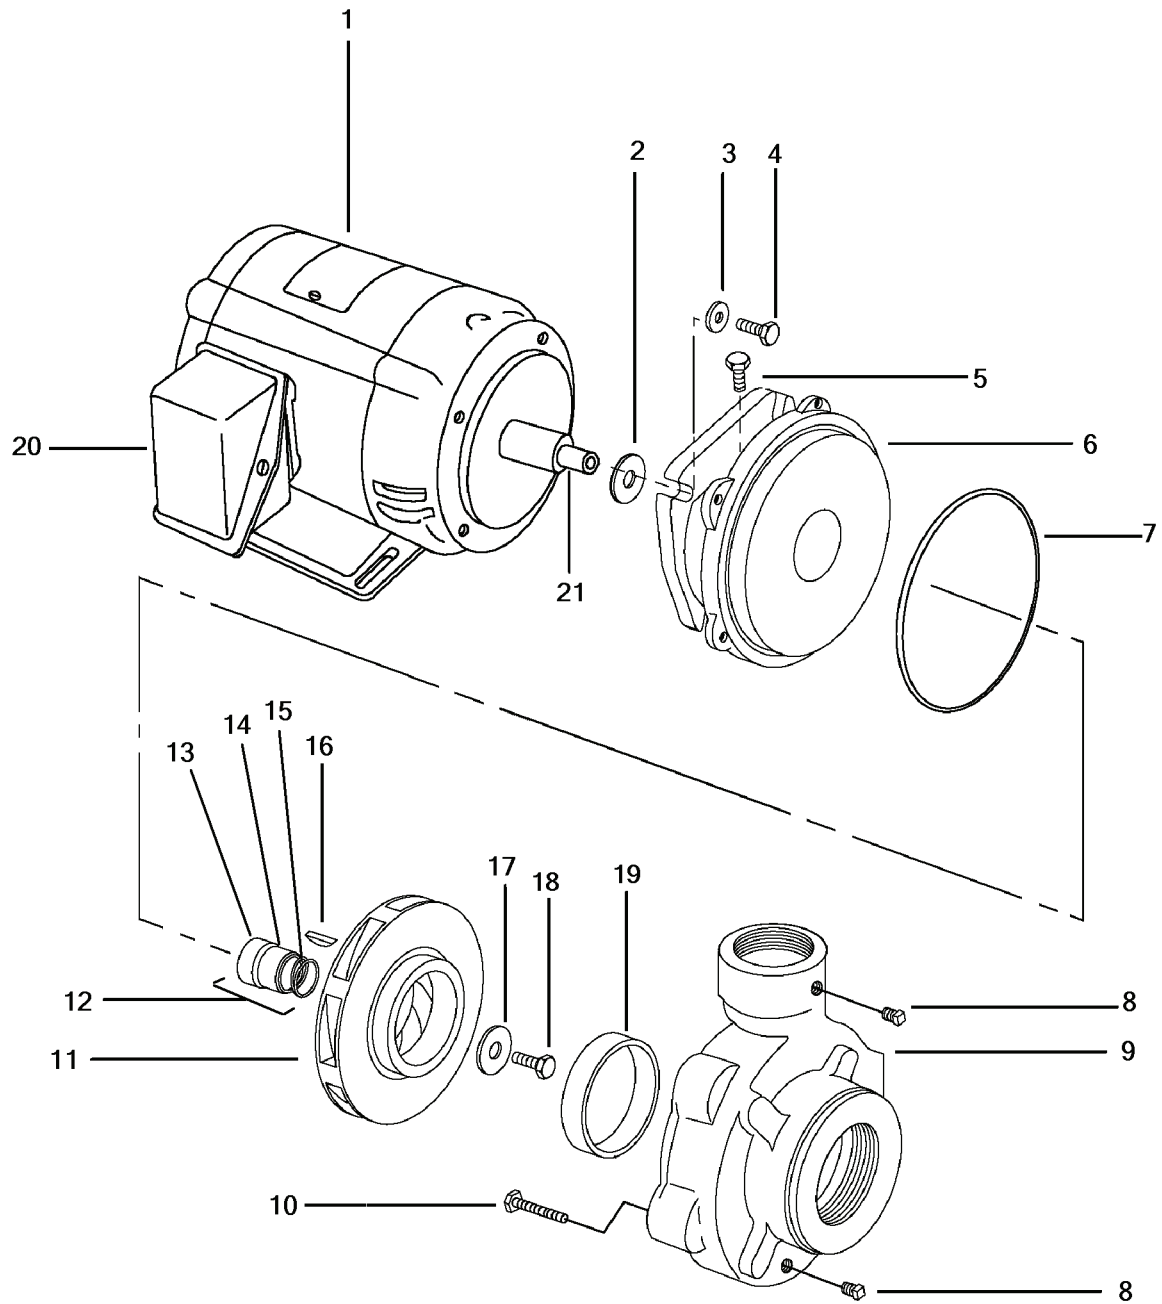
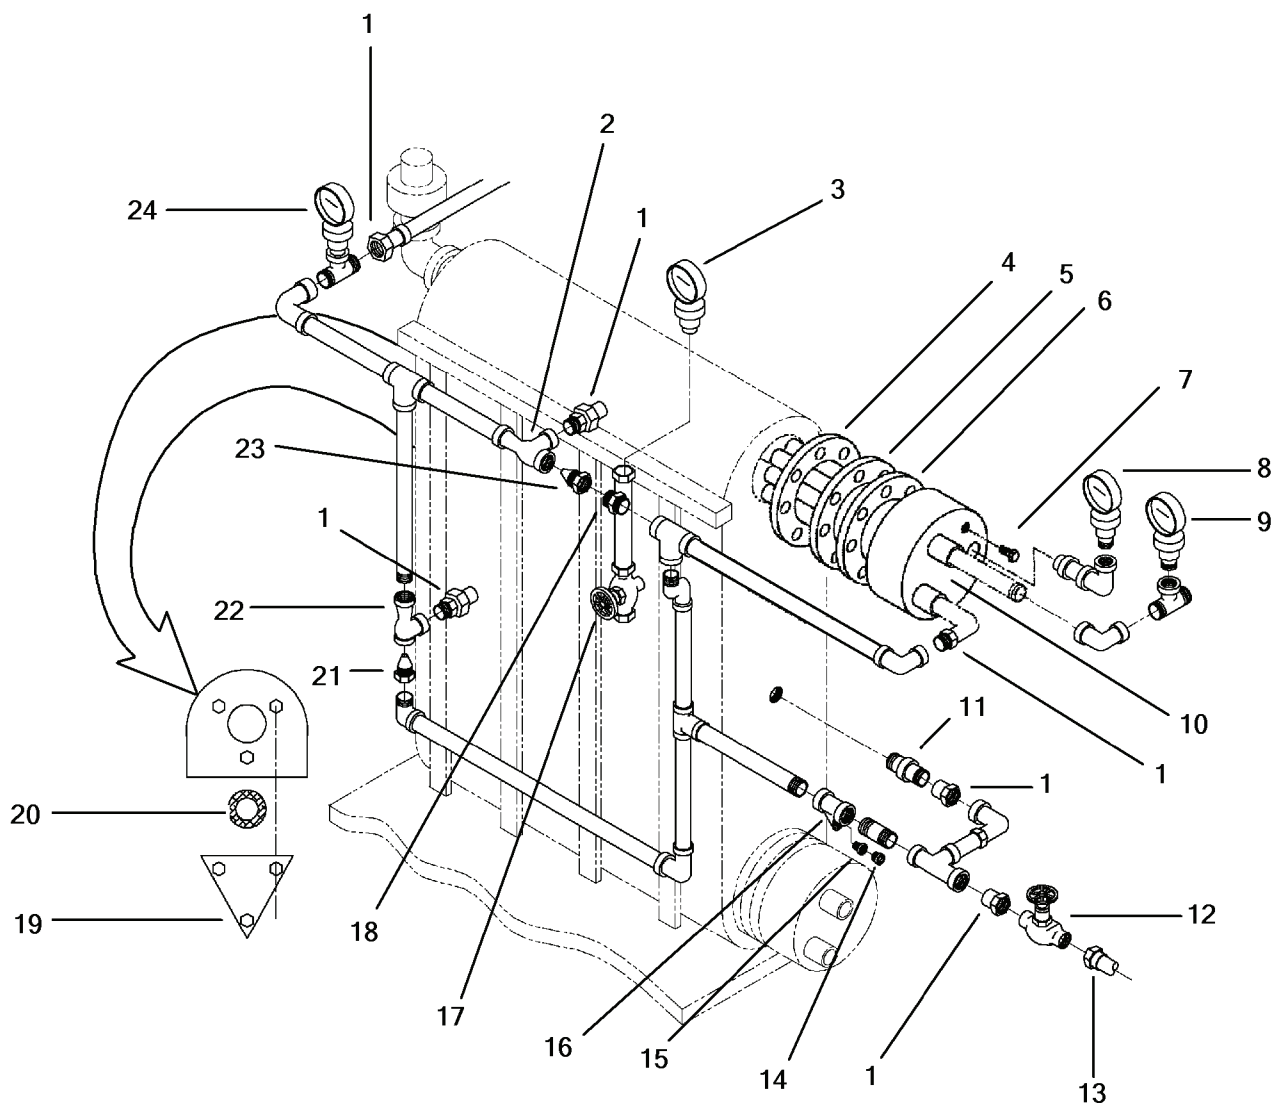

Figure 2-11. Jacket Water Pump.
Figure 2-12. Feed Water Piping Group.
To remove Jacket Water Pump (Figure 2-11), proceed as follows:
To replace the Jacket Water Pump (Figure 2-11), proceed as follows:
- a. Removal of the piping group (Figure 2-12), proceed as follows:
- (1) Place container under wye strainer (16) to catch remaining feed water.
- (2) Remove cap (14) and strainer basket (15) and allow draining of piping system.
- (3) Place container under brine jet pump (22) to catch remaining feed water.
- (4) Loosen the brine jet pump (22) union fitting (1) to drain remaining water from piping.
- (5) Disconnect the six union fittings (1) and remove the piping group.
- (6) Remove the feed orifice (11) from Waste Heat Evaporator shell and ball valve (12) from fitting (13) after the piping group is clear.
- b. Removal procedures for the Vacuum Jet Pump (2) connected to treaded piping, and the Brine Jet Pump (22) connected to a male/male coupling (18) are the same, (Figure 2-11), proceed as follows:
- (1) After the piping group is removed the jet pumps (2 or 22) can be removed by disconnecting from the appropriate piping.
- (2) Remove the jet pump nozzles (21 or 23) by unscrewing from the jet pumps.
- c. Removal of the Freshwater Condenser Bundle (5) can only be accomplished after steps a.1 through a.5 have been completed.
- (1) Remove wye strainer cap (14).
- (2) Remove strainer basket (15) from wye strainer, ensure it is unclogged and free of debris, clean with soapy water.
- (3) Rinse with clean potable water.
Repair is by replacement of the Jet Pumps (2 or 22), Feed Orifice (11), Freshwater Condenser Bundle (5), pressure gauge (8), temperature gauges (9 or 24) and damaged or worn associated piping (Figure 2-12):
- (1) Remove applicable associated pipe fittings as describe in removal procedure a.
- (2) Install new applicable pipe fitting as described in replacement procedures.
- b. To replace the Vacuum Jet Pump (2) and the Brine Jet Pump (22) proceed as follows:
- (1) Install the jet pump nozzles (21 or 23) into the jet pumps.
- (2) Reconnect the appropriate piping.
- c. To replace the piping group (Figure 2-12), proceed as follows:
- (1) Replace the feed orifice (11) into the Waste Heat Evaporator shell, and the ball valve (12) into fitting (13).
- (2) Place the piping group into position.
- (3) Connect all six union fittings (1) and tighten.
- (4) Replace the strainer basket (15) and cap (14).
- d. To replace the Sight Glass (19), proceed as follows:
**2-20. Relief Valve. (Figure 2-12 and 2-13)**
- a. Open the vacuum release valve (17, Figure 2-12) to equalize internal pressure.